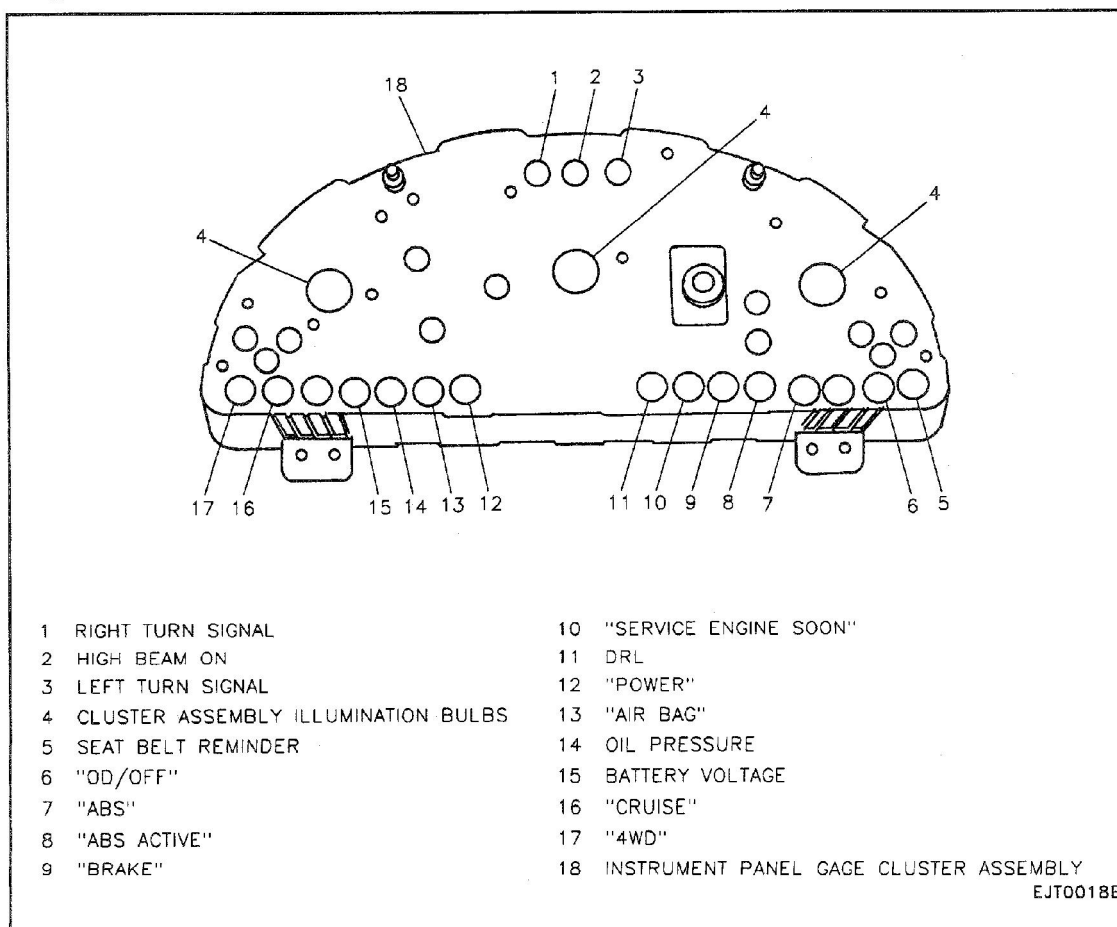

Figure 11—Instrument Cluster Indicator Bulb Location
3. All bulb sockets from rear of instrument cluster assembly (Figure 11).